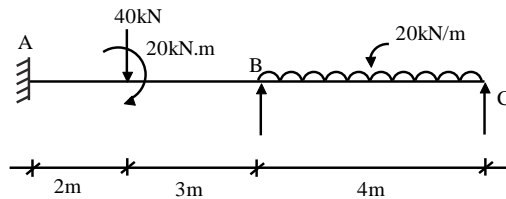

Fig. 2
2. Analyse the continuous beam as shown in fig. 2 by using three moment equation and Draw BMD assume uniform EI. 13